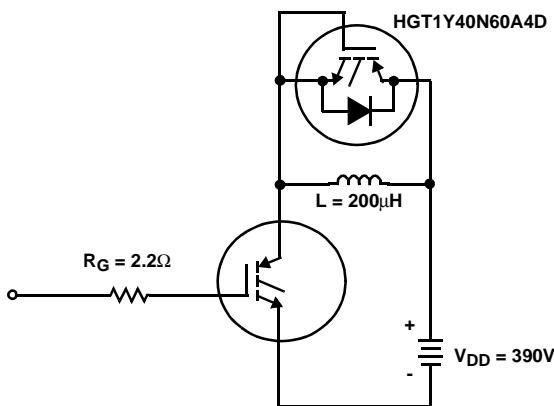

FIGURE 20. INDUCTIVE SWITCHING TEST CIRCUIT
3. Values for two Turn-On loss conditions are shown for the convenience of the circuit designer. E_{ON1} is the turn-on loss of the IGBT only. E_{ON2} is the turn-on loss when a typical diode is used in the test circuit and the diode is at the same T_J as the IGBT. The diode type is specified in Figure 20.